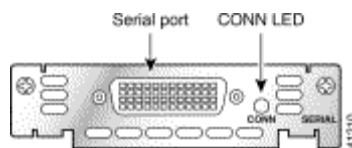

Figure 3
The 1-port serial WAN interface card (see Figure 3 – already built in the router) has a DB-60 serial port. Use the correct cable (contained in the package) for your serial WAN interface card (CAB-232MT).
**Step 1** Use the serial cable and connect one end of the cable to the serial port of the router (Figure 3)